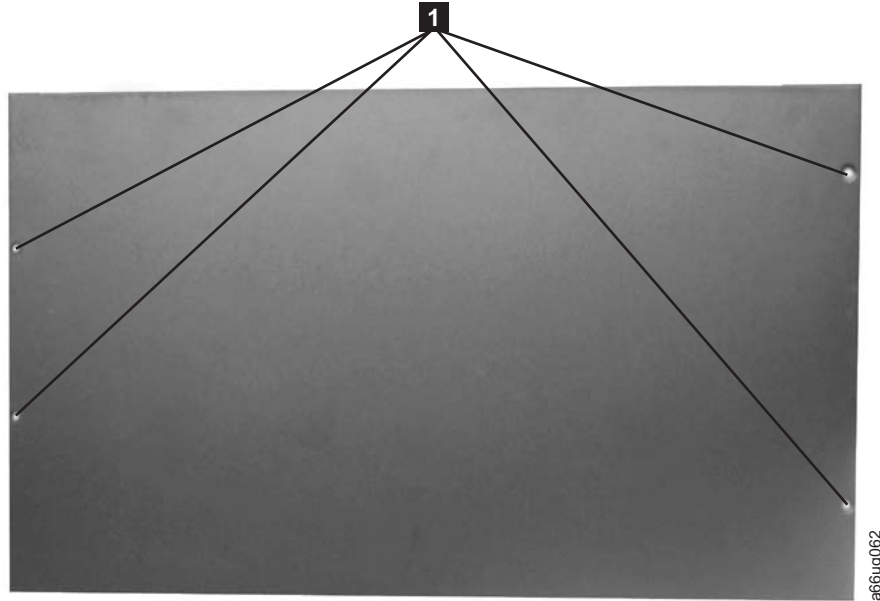

Figure 3-12. Top cover of the 5U control module
1. Remove the 4 - #2 Phillips top cover screws (**1** in Figure 3-12).
4. Install the top cover, using the 4 Phillips screws (see **1** in Figure 3-12).